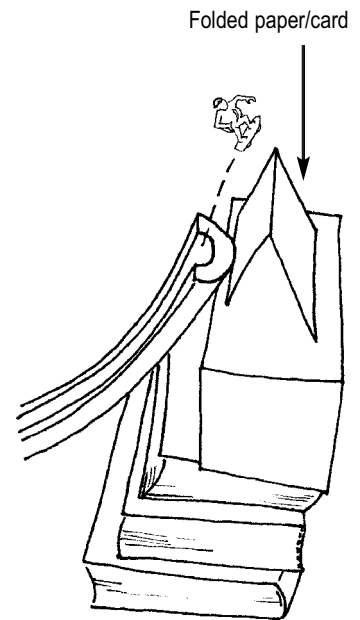

Figure 1.2
- Place the folded paper (high jump bar) on top of books (see Figure 1.2) and have the children release a marble to see if it can jump over the bar. Change the position of the bar and the shape of the track until you get the marble to jump as high as possible.